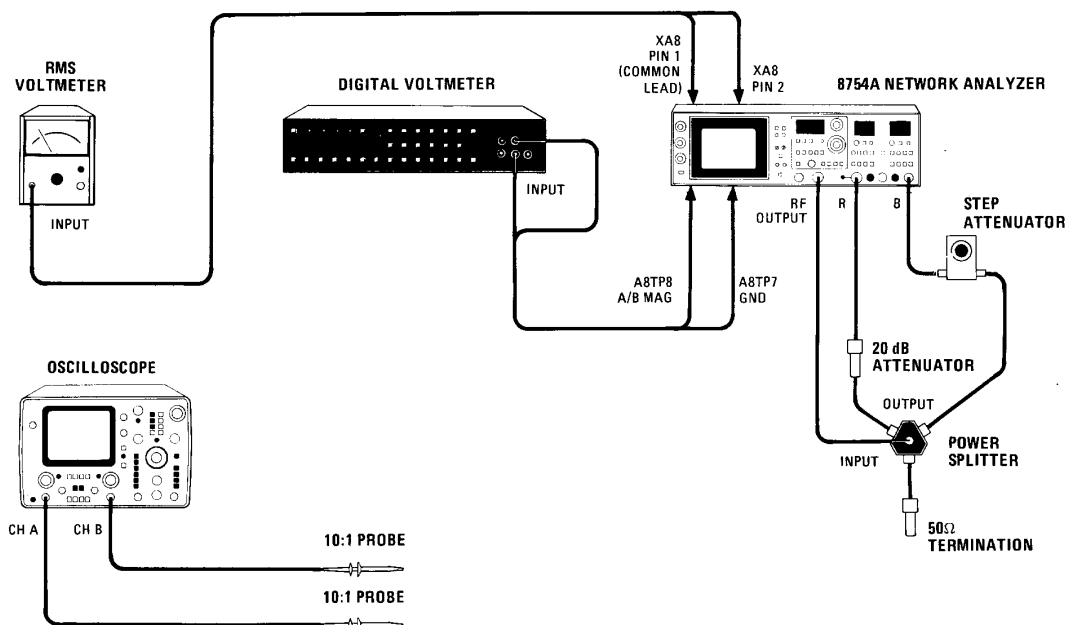

Figure 5-27. Magnitude Detector Accuracy Adjustment Test Setup
- a. Connect equipment as shown in Figure 5-27.
- b. Connect equipment as shown in Figure 5-27.